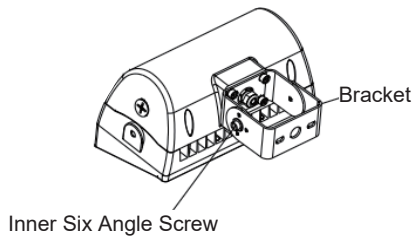

figure 2.1
Step 2 Finish the wiring connections according to the wiring diagram (L=Black, N=White, G=Ground) and then route the wires appropriately (figure 2.1).